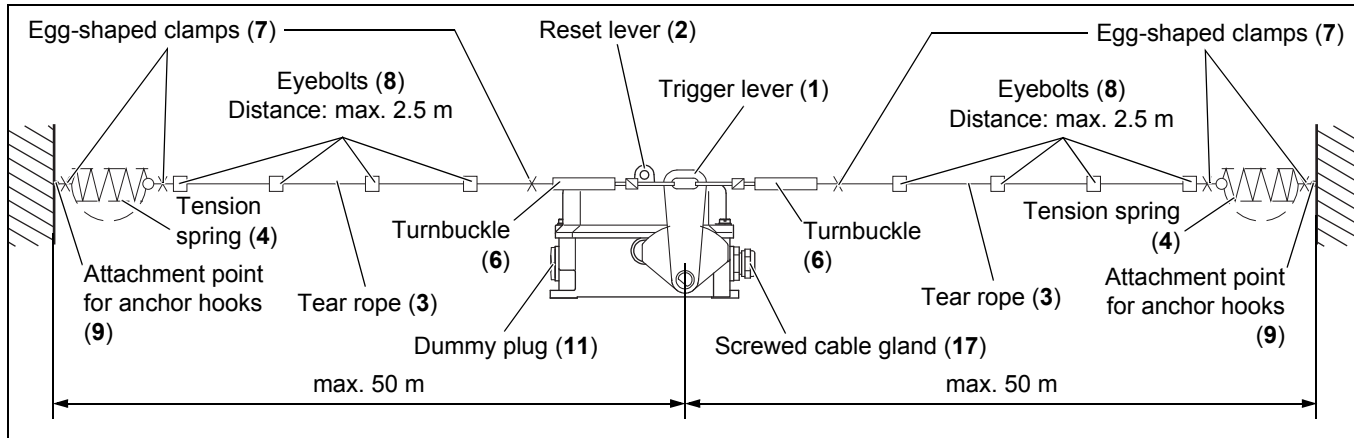

Fig. 5-7: Mounting on the conveyor structure
Centring the trigger lever (1) makes it resistant to temperature changes. The tension springs (4) compensate for any extension or contraction of the tear rope (3) caused by temperature changes (see fig. 5-7).
11. Tighten the tear rope (3) so that the tension spring (4) is extended by 35 mm (see fig. 5-7).
12. Attach this end of the tear rope (3) using an egg-shaped clamp (7).
13. Remove the turnbuckle (6) again. Unlock the pull-rope emergency stop switch by using the reset lever (2) (see fig. 5-7).
14. Repeat steps 5 - 12 for installing the tear rope (3) on the other side of the pull-rope emergency stop switch.
15. Now hook both turnbuckles (6) into place and operate the actuating lever (1) of the pull-rope emergency stop switch.
16. Place the trigger lever (1) in the middle using the turnbuckles (6) and adjust the length of the tightened tension springs (4) to 210 mm (see fig. 5-7).